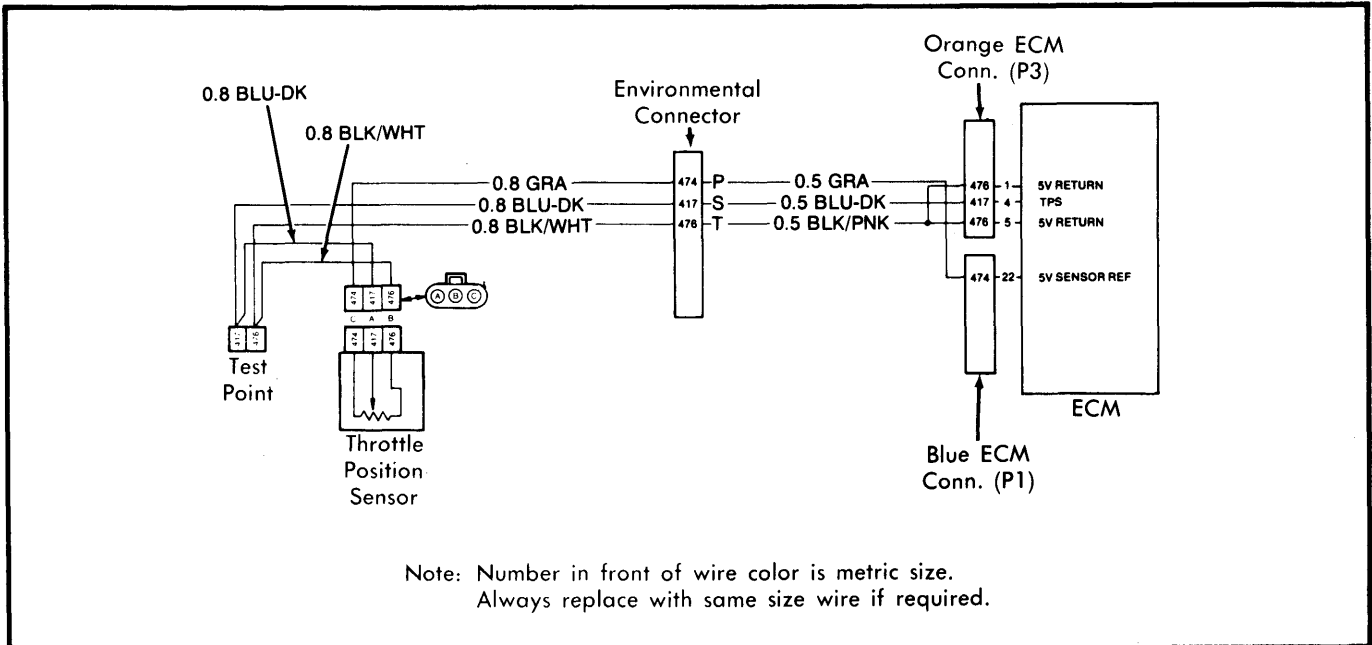

Fig. 5 DFI Throttle Position Sensor (TPS) Circuit
1) Remove air cleaner, start engine and warm engine to normal operating temperature. Turn air conditioner off. Connect tachometer to engine. Using a digital volt/ohmmeter (J-29125), connect positive lead to harness test point "A" (circuit No. 417 — Dark Blue wire). Connect negative lead to harness test point "B" (circuit No. 476 — Black/White wire). See Fig. 5